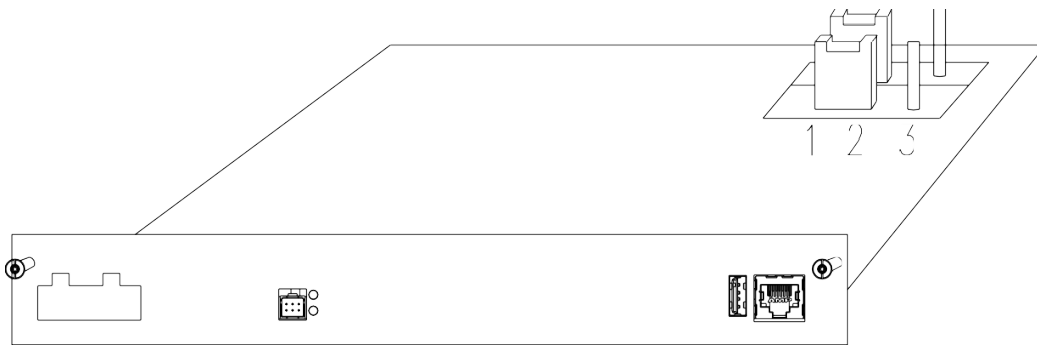

Figure 5.28 Resistance Setting Diagram
- Dispenser D follows factory settings and does not require adjustment. As shown in Figure 5.28: